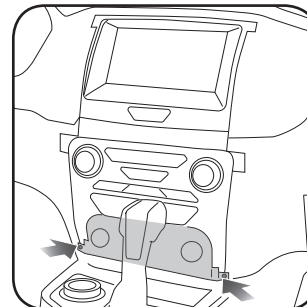

Fig. 1.5
5. Remove two (2) 7mm screws securing the power port panel. Unclip, unplug and remove the panel. (Fig. 1.5)